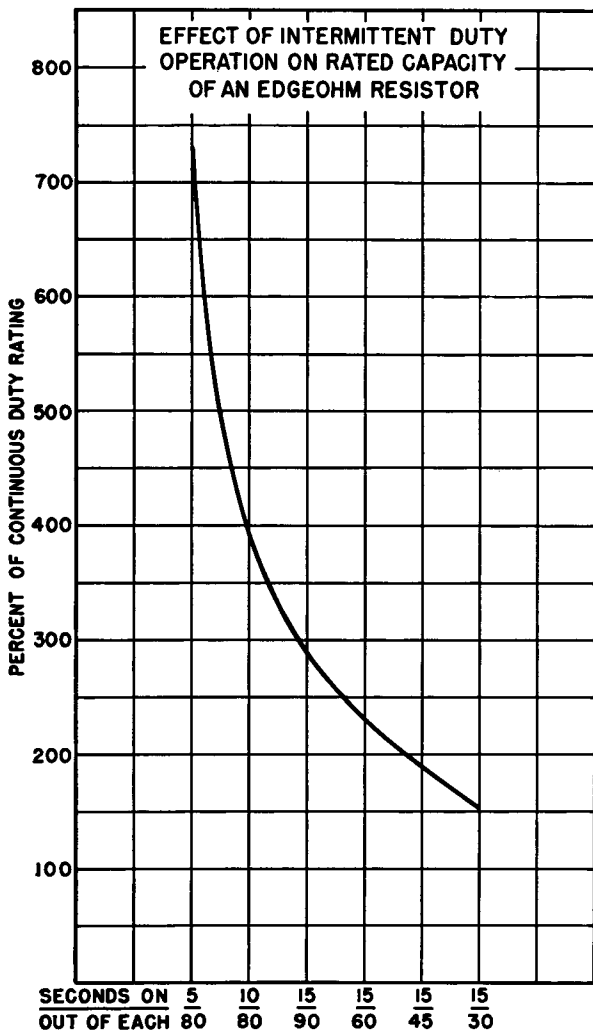

Figure 3-32. Edgeohm Resistor Intermittent-duty Ratings.
6. *Intermittent-duty Ratings*—The effect of intermittent-duty operation on the ratings of an Edgeohm resistor are shown in Figure 3-32. Ratings given are based on a 375°C rise in free air.
If 8,800 watts (RMS) must be dissipated during a duty cycle of 10 seconds "on" out of each 80 seconds, Figure 3-32 indicates that the percent of continuous